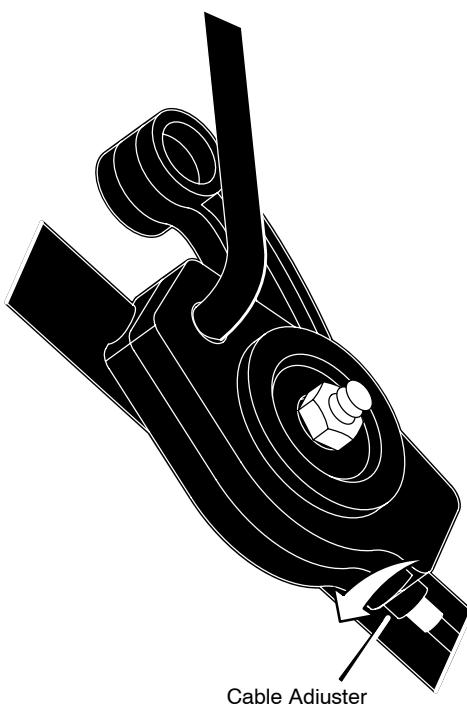

Figure 22
1. If the drive system is slipping, turn the **cable adjuster** one turn in the direction shown in Figure 22. Test the drive system and check for slippage.